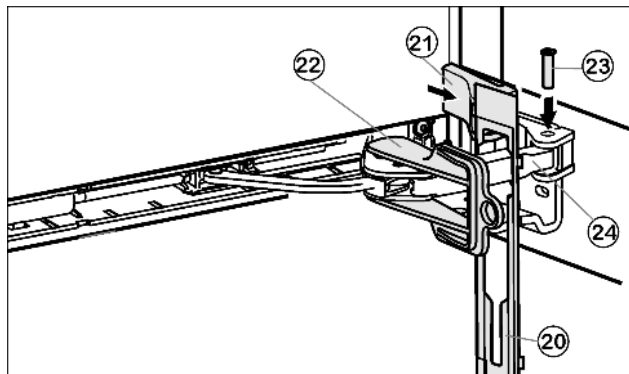

Fig. 16
- ▶ Attach the faceplate Fig. 16 (20) to the soft stop bracket so that the catches face forwards and the front faces the appliance.
- ▶ Draw the soft stop bracket Fig. 16 (24) towards the bearing element and insert the pin Fig. 16 (23) from above so that the square is seated in the depression.
- ▶ Attach and engage the cover Fig. 16 (21).
- ▶ Twist the safety lock Fig. 16 (22) for removal.
- ▶ Snap the faceplate Fig. 16 (20) onto the door.